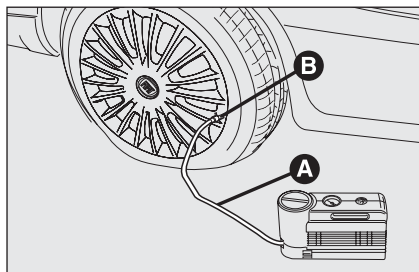

fig. 15
- Pull up the handbrake.** Loosen tyre inflation valve cap, take out the filler hose **A-fig. 15** and screw the ring nut **B** on the tyre valve;